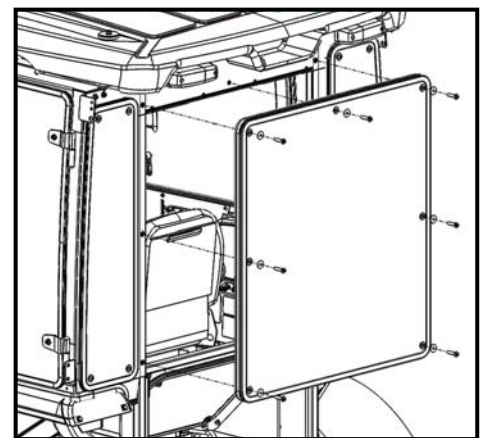

Figure 4.1: Rear Cab Windshield
- 4.1 Install the rear cab windshield to the cab using (7) 1/4-20 x 1-1/2" hex bolts and 1/4" steel fender washers into the rear panel (see Figure 4.1).